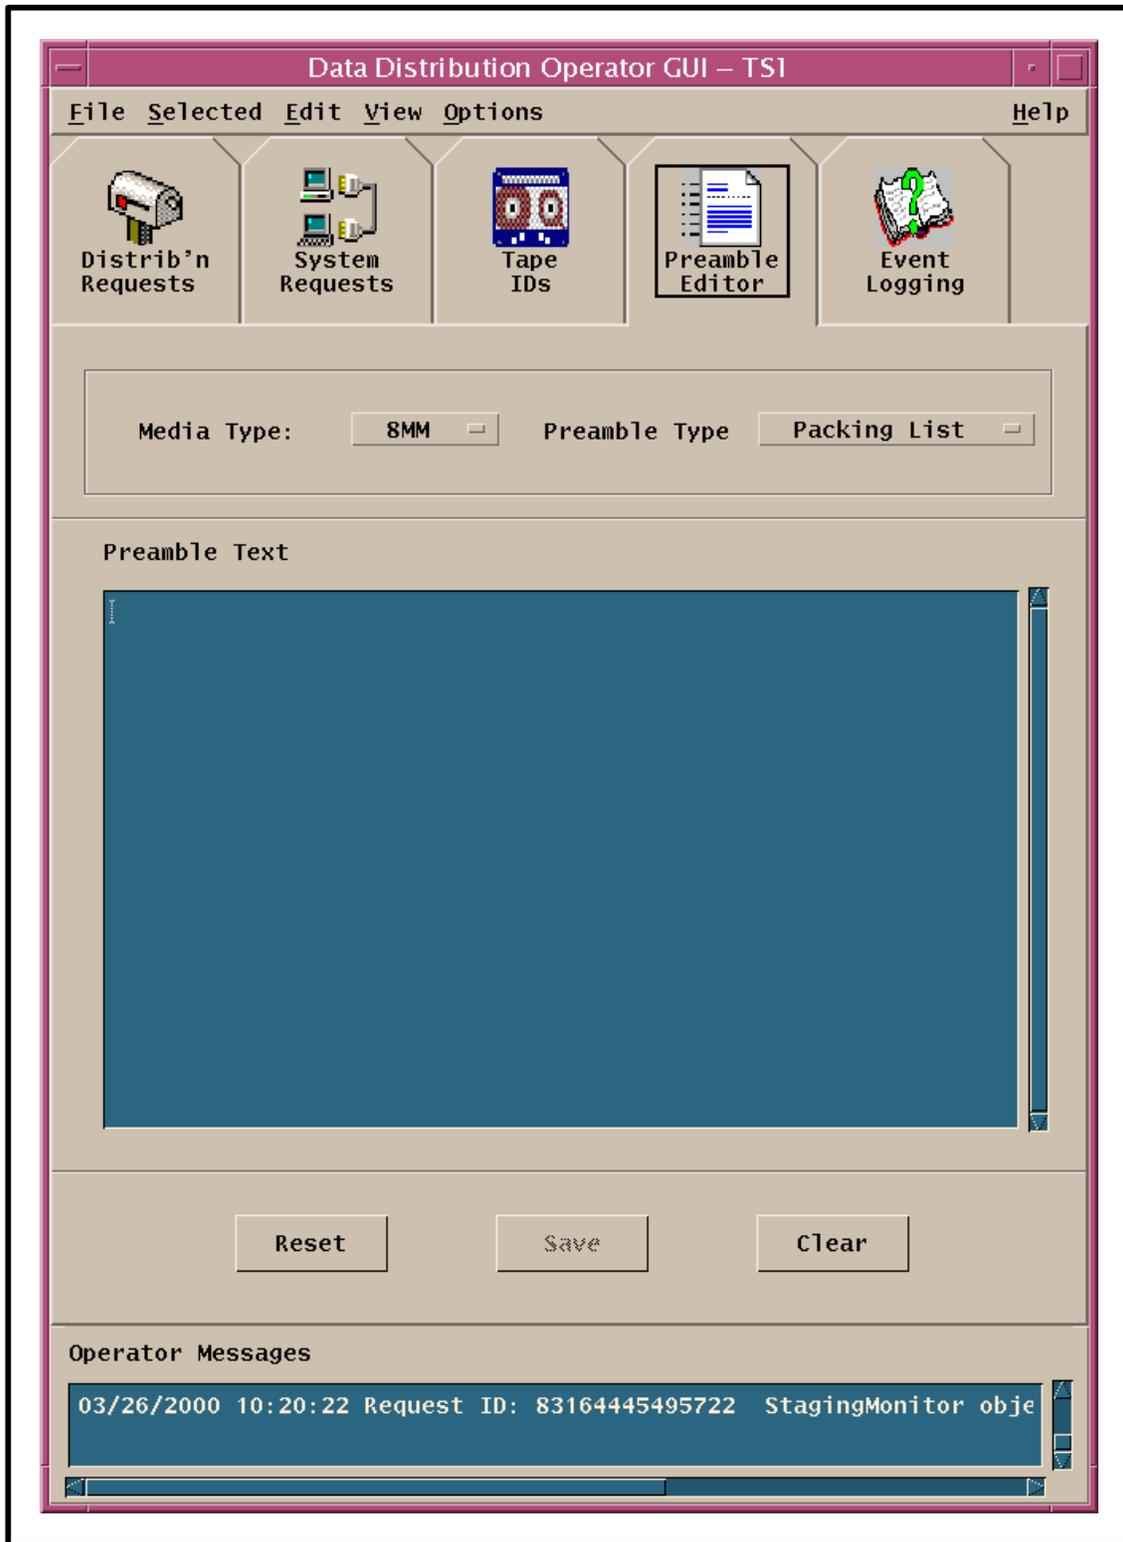

Figure 9. Preamble Editor Tab (Data Distribution Operator GUI)
The **Preamble Editor** tab (Figure 9) on the **Data Distribution Operator GUI** allows the Ingest/Distribution Technician to review and/or modify the text of preambles to the following types of documents:
- The **Preamble Editor** screen (Figure 9) is displayed.